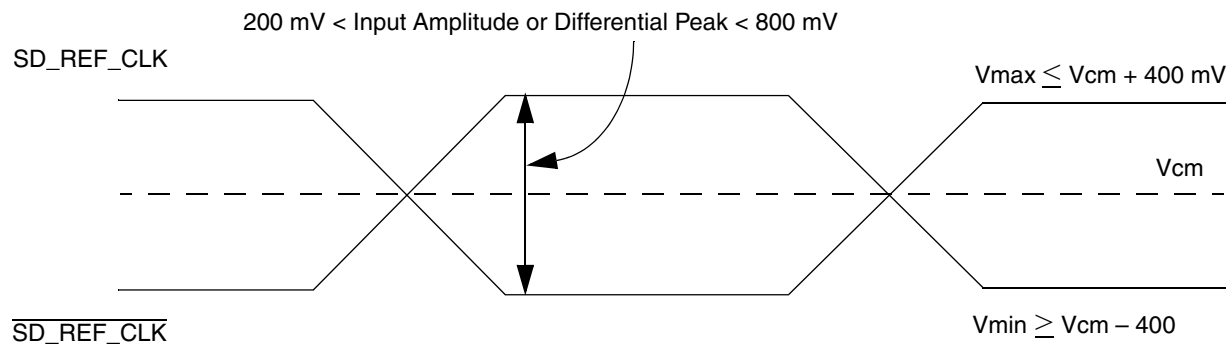

Figure 53. Differential Reference Clock Input DC Requirements (External AC-Coupled)
- For **external AC-coupled** connection, there is no common mode voltage requirement for the clock driver. Since the external AC-coupling capacitor blocks the DC level, the clock driver and the SerDes reference clock receiver operate in different command mode voltages. The SerDes reference clock receiver in this connection scheme has its common mode voltage set to SGND_SRDS_n . Each signal wire of the differential inputs is allowed to swing below and above the command mode voltage (SGND_SRDS_n). Figure 53 shows the SerDes reference clock input requirement for AC-coupled connection scheme.